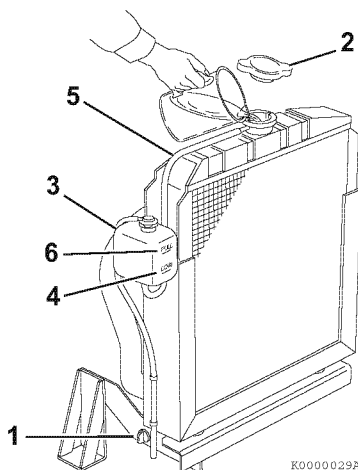

Fig.40-31
1. Check that the radiator drain plug (1, Fig.40-31) is closed.
3. Remove the radiator cap (2, Fig.40-31) by turning it counterclockwise about 1/3 of a turn.
5. Tighten the radiator cap (2, Fig.40-31). Align the tabs on the back side of the radiator cap with the notches on the engine coolant filler port. Press down and turn the cap clockwise about 1/3 of a turn.
6. Remove the cap of the reserve tank (3, Fig.40-31), and fill it to the LOW mark (4, Fig.40-31), with engine coolant. Reinstall the cap.
7. Check the hose (5, Fig.40-31) that connects the reserve tank to the radiator. Be sure it is securely connected and there are no cracks or damage. If the hose is damaged, engine coolant will leak out instead of going into the reserve tank.
8. Run the engine until it reaches operating temperature. Check the level of engine coolant in the reserve tank. When the engine is running and the engine coolant is at normal temperature, the coolant level in the reserve tank should be at or near the FULL mark (6, Fig.40-31). If the coolant is not at the FULL mark, add coolant to the reserve tank to bring the coolant level to the FULL mark.